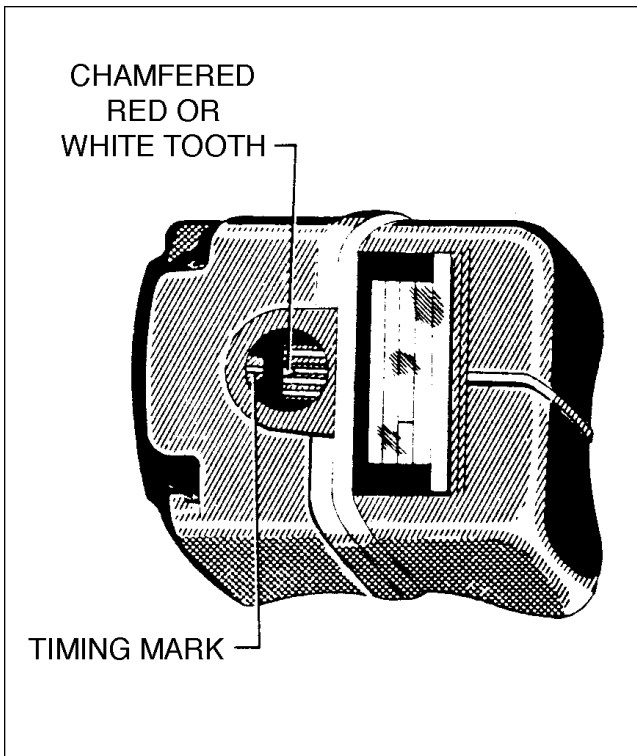
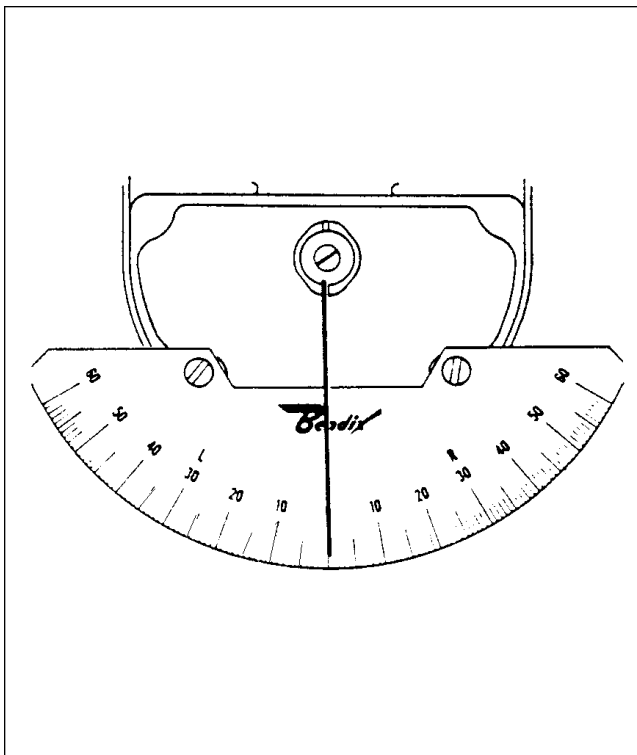

Figure 8-17. Magneto Timing Marks
Figure 8-19. Timing Kit Installed
1. The distributor drive gear will have one chamfered tooth marked white *or* red. To determine "E" gap, locate neutral position of the magneto drive by rotating the drive coupling in a left hand direction until the red or white chamfered tooth on the distributor drive gear appears through the timing inspection hole. (Refer to Figure 8-17.) At the same time, the drive should feel to have fallen into a neutral position.
2. With timing plate and pointer attached (Refer to Figure 8-19.) and pointer set at zero, rotate coupling from neutral in a left hand direction 10 degrees. Appearing through timing hole, check that the white or red tooth aligns with the white line of the distributor block. (Refer to Figure 8-17) alignment may not vary over  $\pm 4$  degrees.